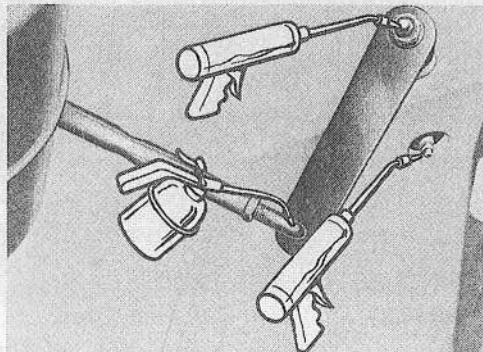

Figure 43
Lubricate both ski legs as shown on Fig. 43. The grease fittings are located at the junction of the ski legs with the steering arms. With a brush, apply some grease on the spring slider cushions (2), in order to smoothen the suspension.
The only points in the steering mechanism that require oiling are shown in Fig. 43 and 45. An oiler filled with Ski-Doo oil is probably the easiest way to lubricate these mobile contact points.